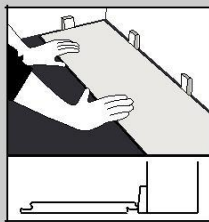

Fig. 1
1. Start with a full plank off the wall and measure how many full planks widths there are. If this means there will be a row of narrow planks along the opposite wall, cut the first row of planks accordingly. Install the plank with the tongue side/cut edge facing the wall, fit 3/16" (5 mm) spacers between the plank and wall (Fig. 1).